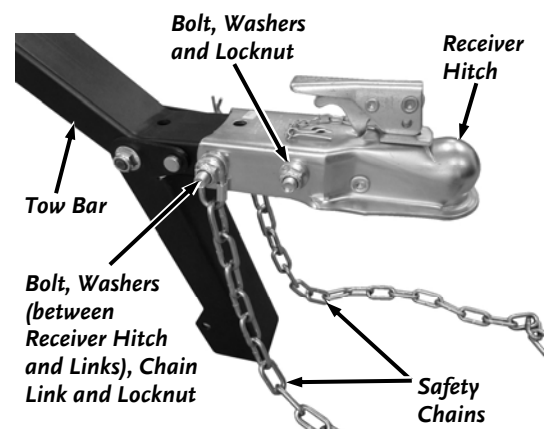

Figure 3
3. Slide a Link onto a Bolt followed by a Washer and insert the Bolt through the rear holes of the Receiver and Tow Bar (**Figure 3**).